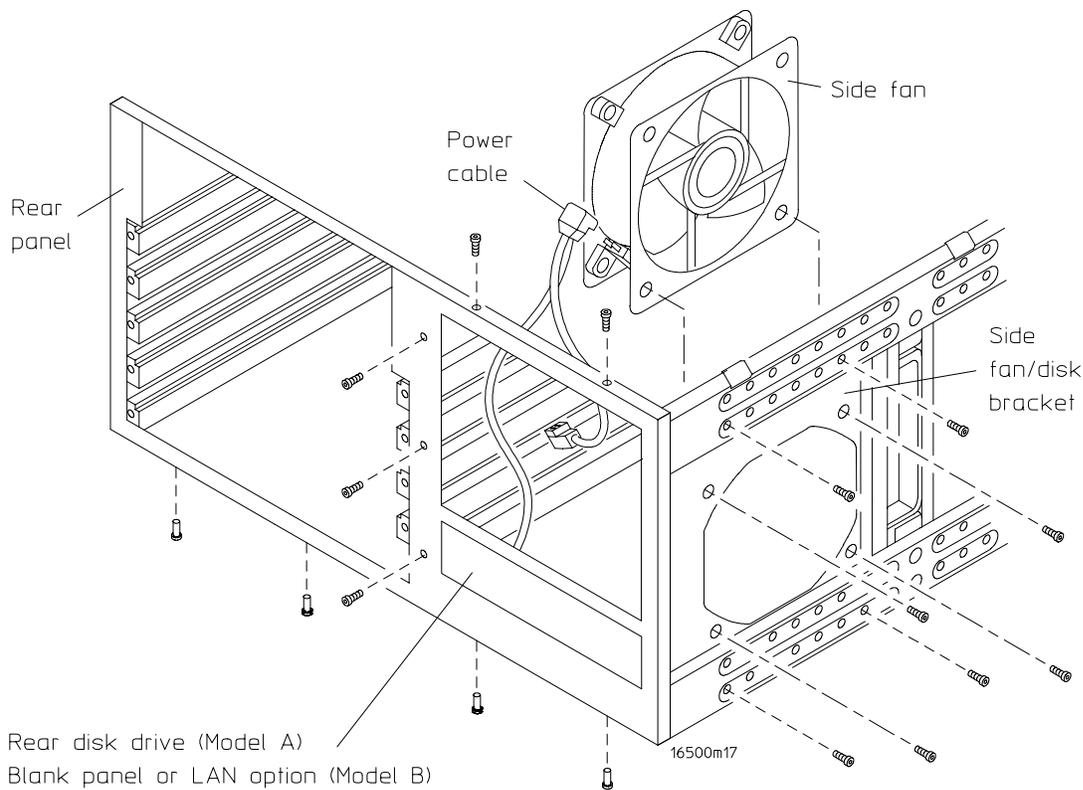

Figure 9. Removing Side Fan and Fan/Disk Drive Bracket
(See Figure 9 for Steps 17-20: Removing Side Fan and Fan/Disk Drive Bracket)
22. Remove rear panel (9 screws - keep in two groups for reassembly) using a T10 or T15 Torx screwdriver. Rear panel will not be reused. Screws are shown in Figure 9.